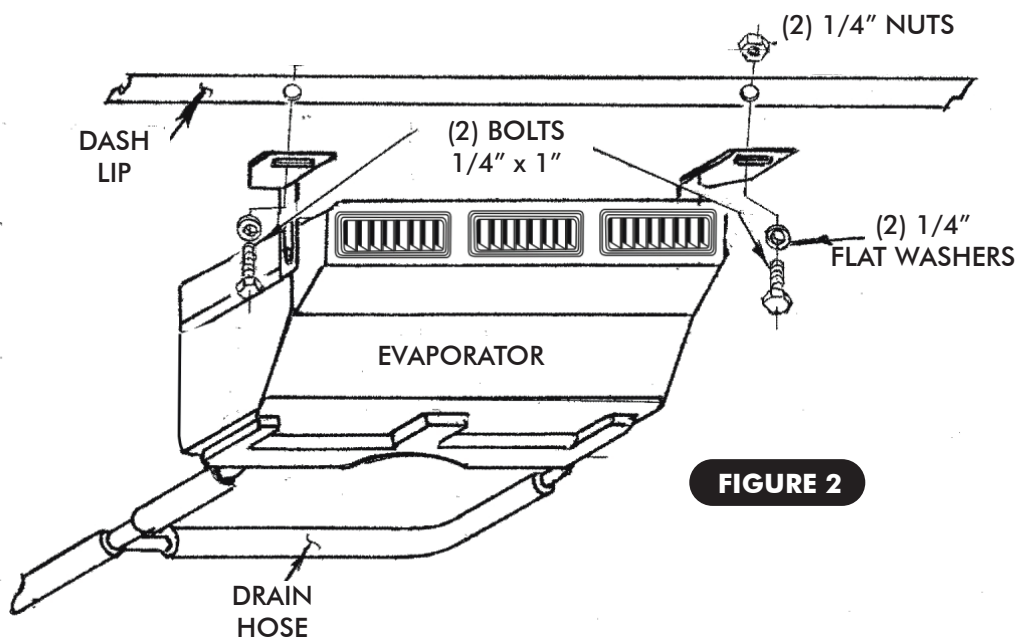

FIGURE 2
3. ATTACH THE EVAPORATOR TO THE DASH WITH (2) 1/4" x 1" BOLTS AND NUTS AS SHOWN IN FIGURE 2, BELOW.
4. ATTACH THE DRAIN HOSE AS SHOWN IN FIGURE 2, BELOW.